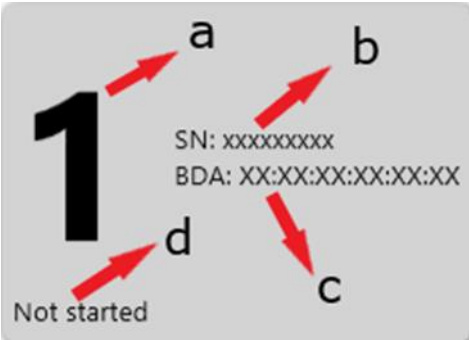

Figure 84. Single DUT tile
- d – Current operation executing (only while tests are running), see Figure 84. If any of the DUTs fails, the current command field indicates the failed test command.